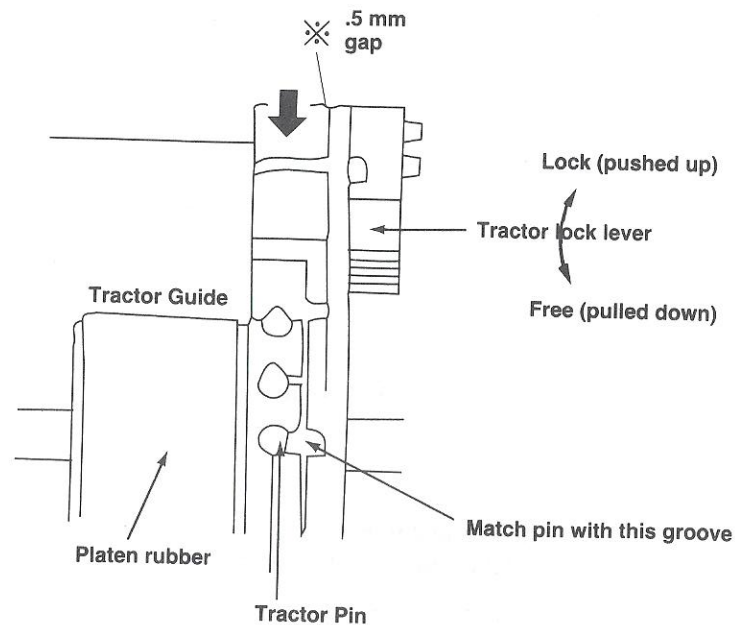

Figure 2-10. Tractor Feed Mechanism
4. Turn the platen dial to adjust the tractor pins and the tractor guide groove as shown in Figure 2-10.
7. Check the initial printing position line on the top cover, the tractor guide, and the paper position, and then push up on the left and right tractor lock levers to lock securely (see Figure 2-10).